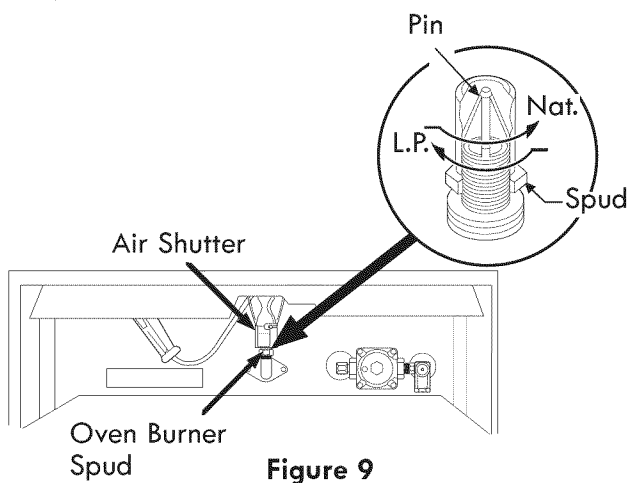

Figure 9
B. Adjust Oven Burner Orifice (see figure 9)
Using a 1/2" wrench, turn down the adjustable spud which injects gas into the oven burner. Turn spud approximately 2 1/2 turns until snug against the LP metering pin. Do not overtighten (see figure 9).